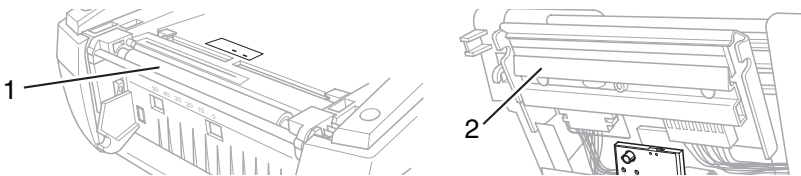

Figure 36, Printhead and Media Feed Rollers
4. Use a cotton swab and a solvent of 90% isopropyl alcohol or a Preventative Maintenance Kit to carefully rub the surface of the printhead (**Figure 36, 2**) and the media feed rollers (**Figure 36, 1**) being careful not to scratch the printhead.